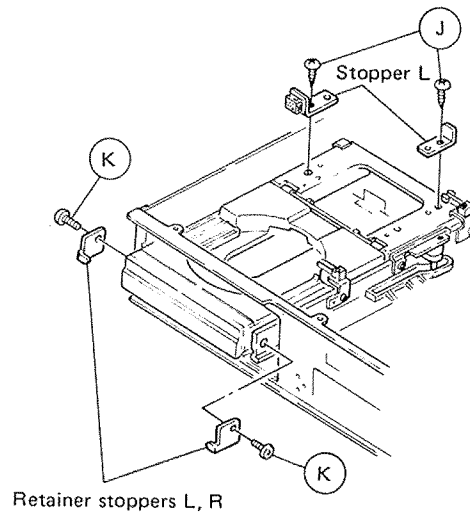

Fig. 5
- (1) Remove the TOP COVER.
- (2) Remove 2 screws ① and take off the 2 STOPPERS L. (Fig. 5)
- (3) Remove 2 screws ② and detach the 2 RETAINER STOPPERS L and R. (Fig. 5)